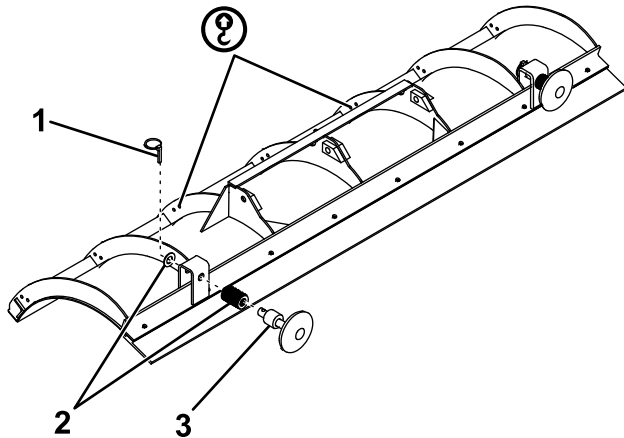

Figure 3
1. Slide a spacer and washer onto each of the plow shoes (Figure 3).
2. Slide the plow shoes into the holes on the plow shown in Figure 3.
3. Slid another washer onto the plow shoes and secure them with a quick pin (Figure 3).